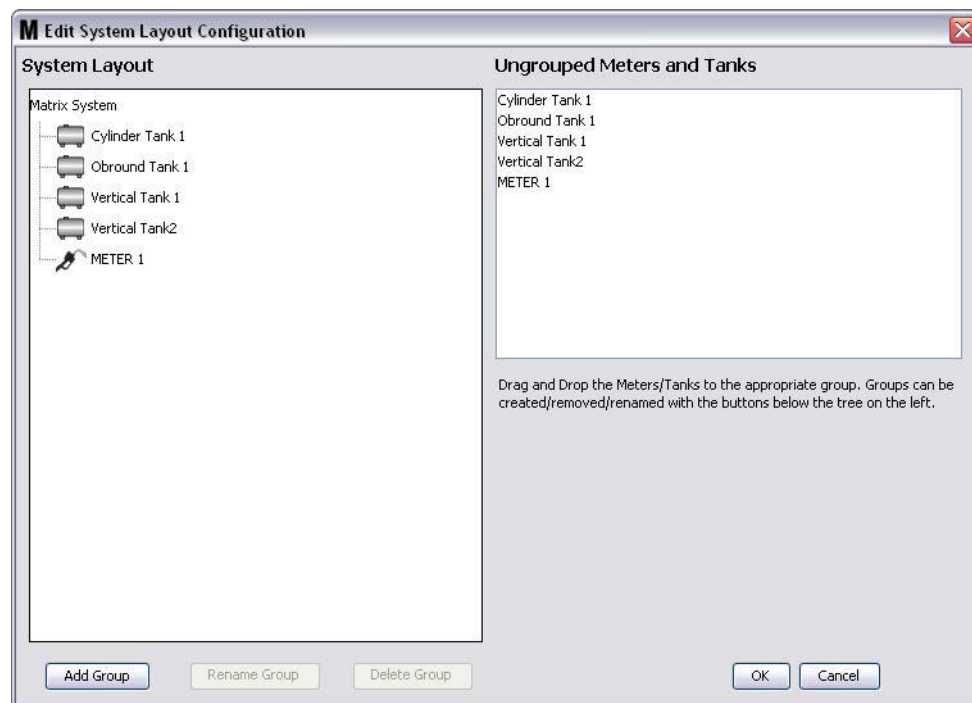

FIG. 138
3. The Edit System Layout Configuration screen shown in FIG. 138 displays.
4. Click the Add Group button (FIG. 138) to create a new device group.